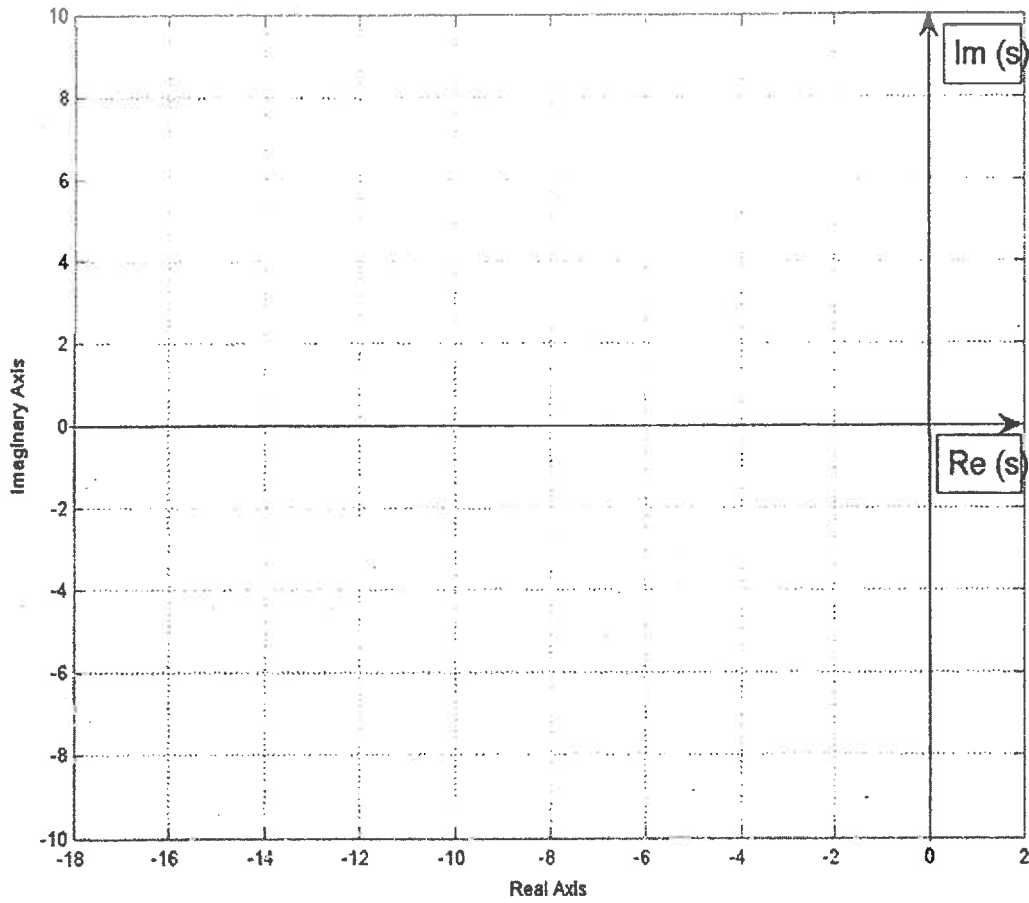

Figure Q1.1
- 2) (5 marks) Use the space provided in Figure Q1.1 to draw the pole-zero map for the closed loop system and based on it, briefly explain why it is appropriate to model the closed loop system behaviour by using the standard second order system model. Next, derive the model parameters: the damping ratio, ζ , the frequency of natural oscillations, ω_n , and the DC Gain, K_{dc} , write out the model transfer function, $G_m(s)$, and place both the parameters and the model transfer function in Table Q1.1.